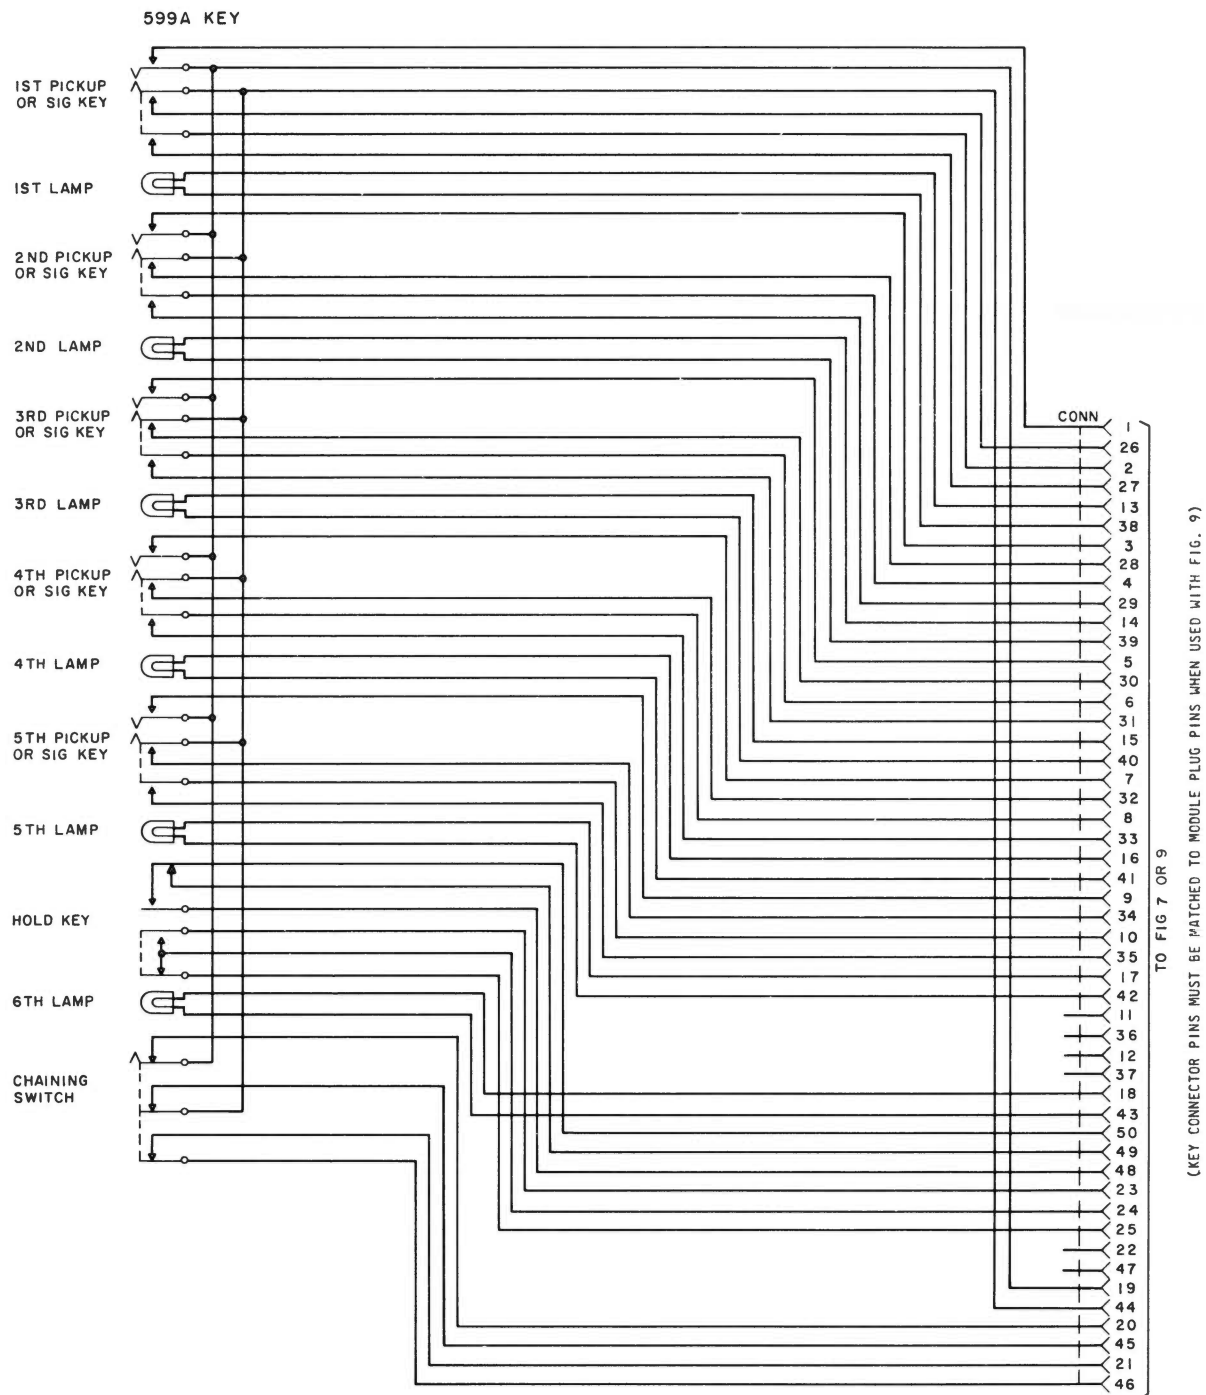

Fig. 1 - 599A Key
- Provide both old and new circuit designation from apparatus cabinet to keys in 636- and 637-type Call Director sets using either Manufacture Discontinued (MD) or even-count color-coded cords and connector cables.
1.03 To facilitate the use of this practice, the circuit leads follow a straight line pattern as near as possible from the apparatus cabinet to the key. Key connector pins (Fig. 1 through 5) are so placed in this section to overlay into corresponding module plug pins in the new even-count Call Director sets (Fig. 7). However, when keys (Fig. 1 through 5) are overlaid into the old (MD) Call Director sets (Fig. 9), it is necessary to match key connector pins to module plug pins.